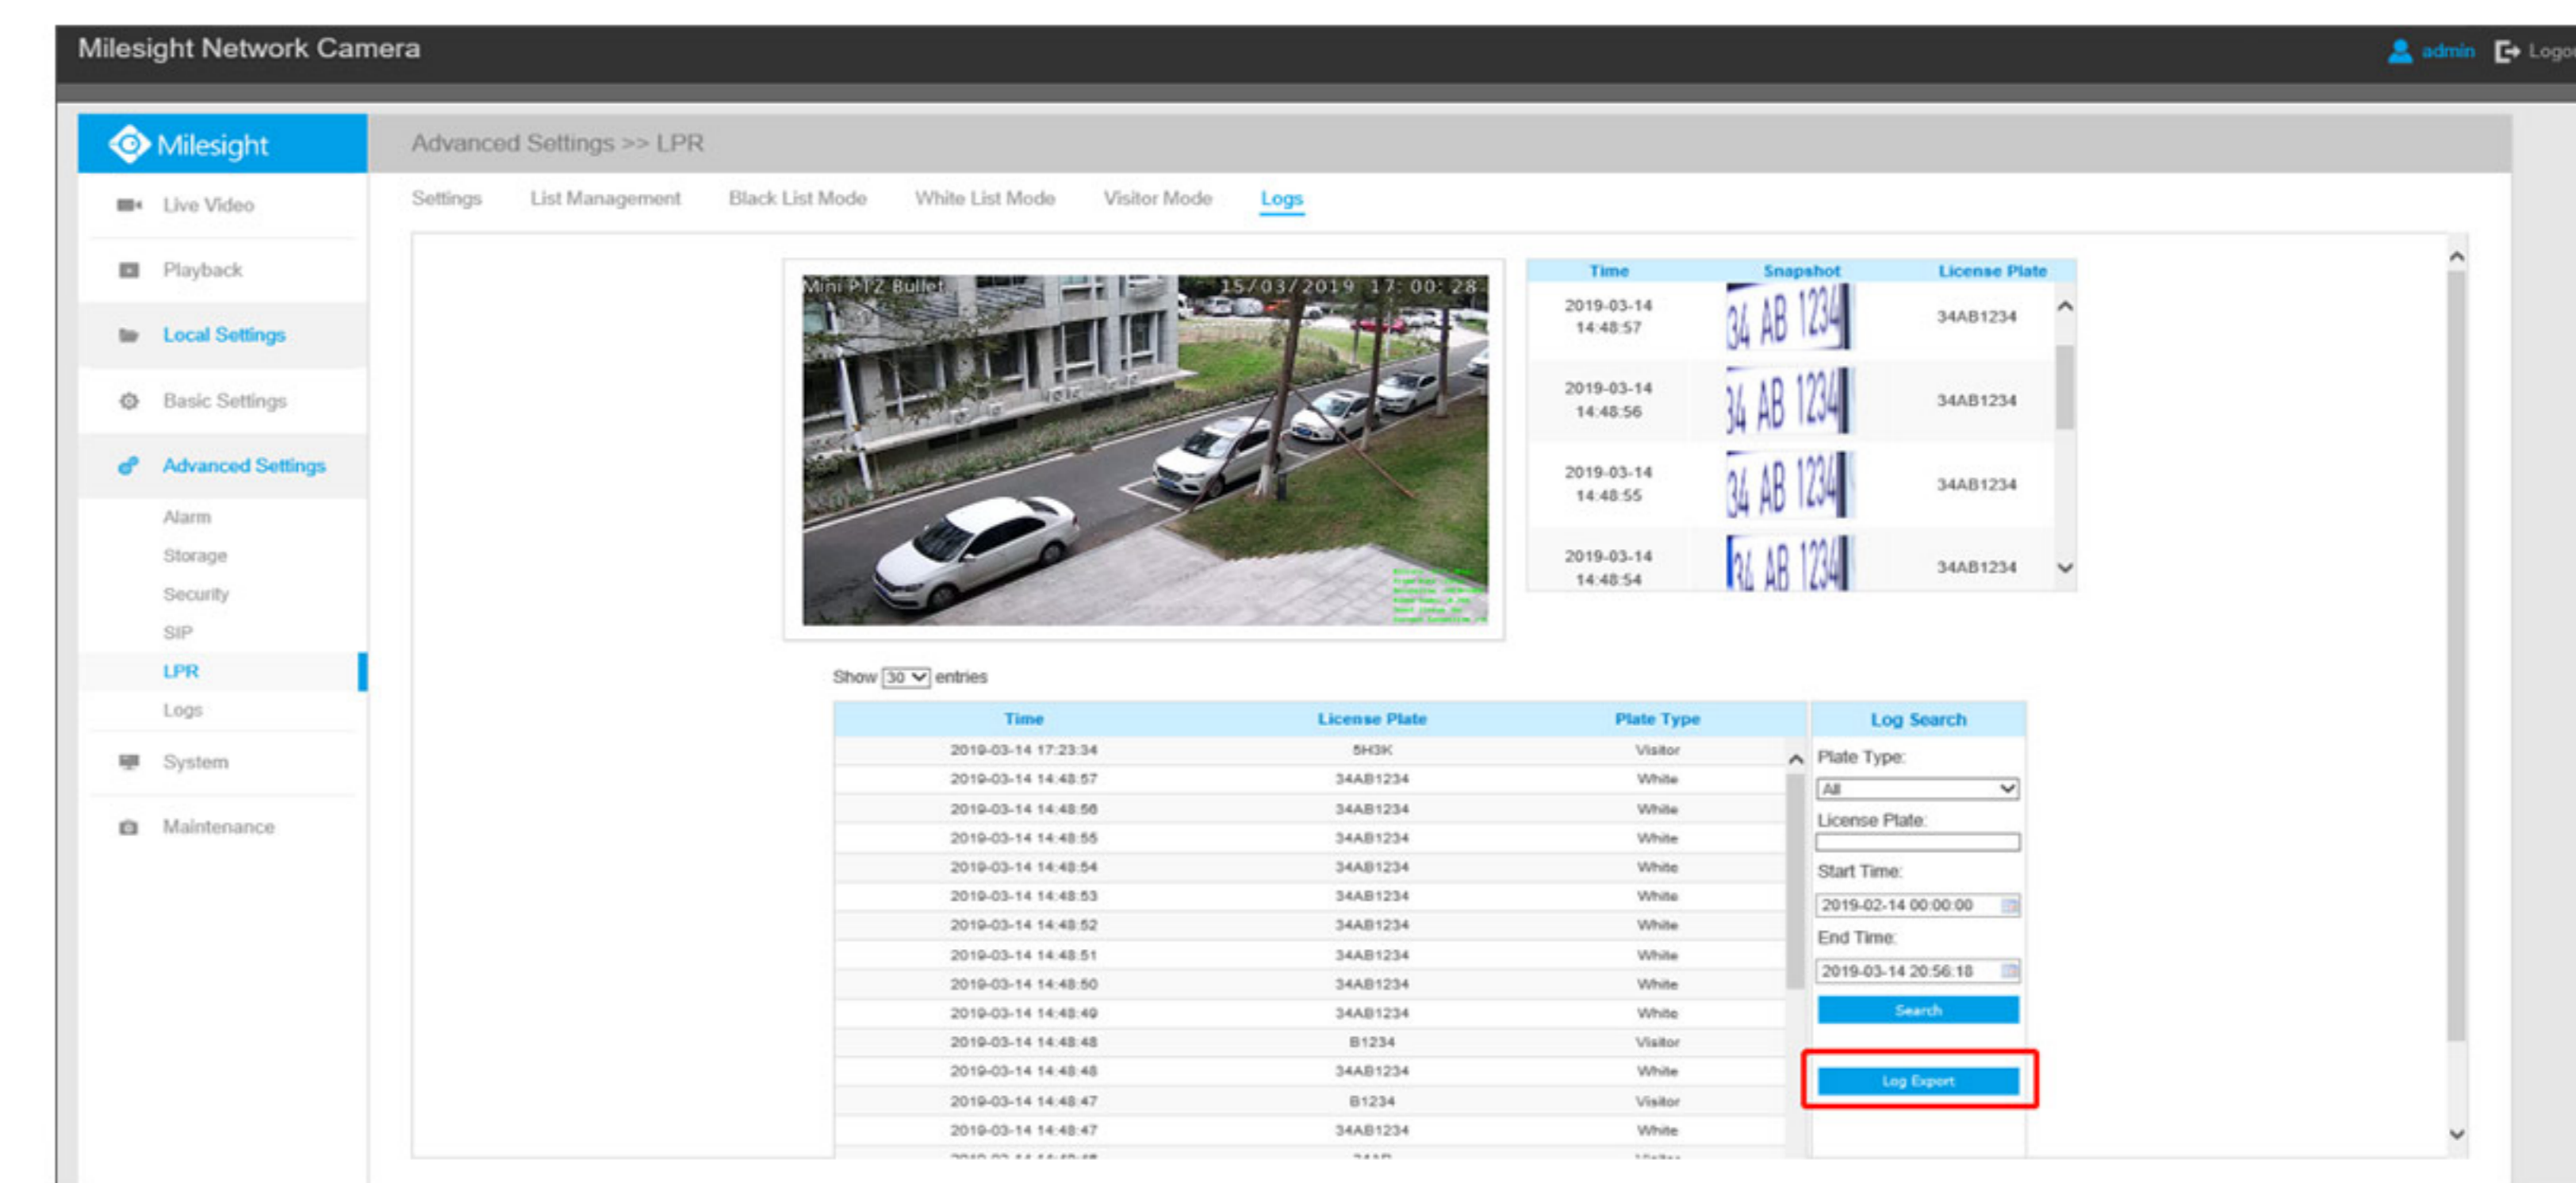

Figure 7
Step 4: Output result. The results from LPR detection will be displayed on the page shown below. And the information could be exported by clicking the Log Export button. (Figure 7)